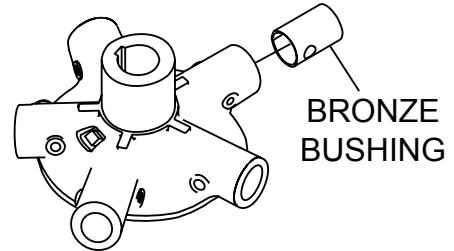

Figure 39. Bronze Bushings
5. Examine the bronze trowel arm bushing (Figure 39), and clean if necessary. Replace bushing if out-of-round or worn.